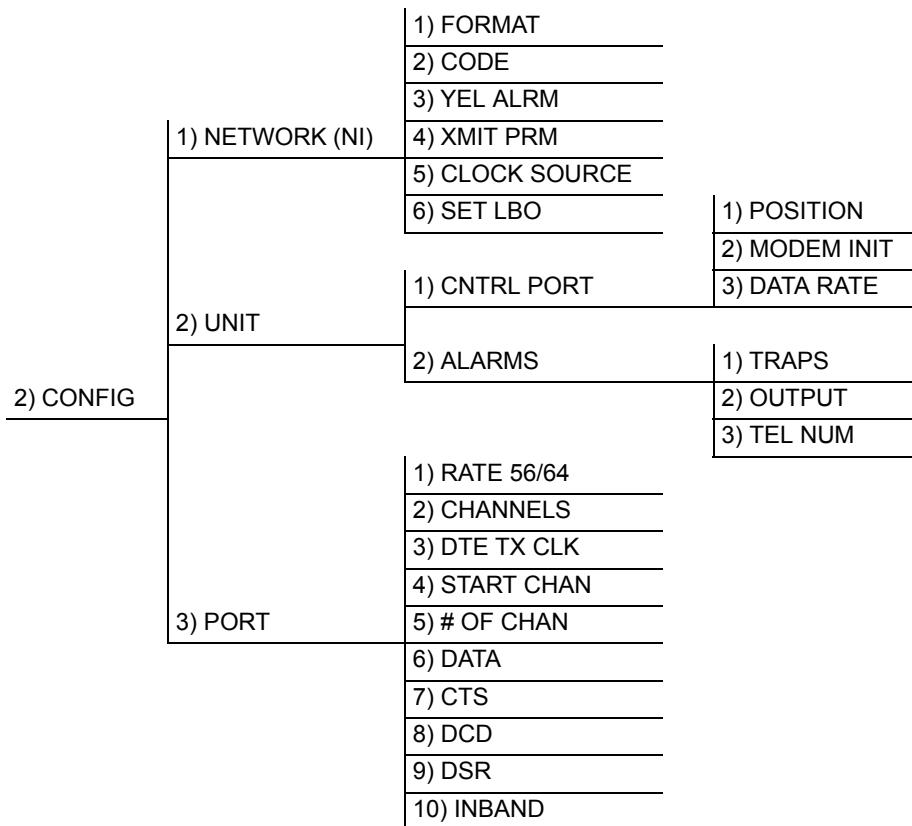

Figure 5-1. Configuration Menu Tree
Use the **CONFIG** menus to set the TSU LT 220V operational configuration, including all of the network interface parameters, the allocation of the DS0s, and the port parameters. This menu includes three branches: **NETWORK (NI)**, **UNIT**, and **PORT**. Figure 5-1 shows the complete menu tree.